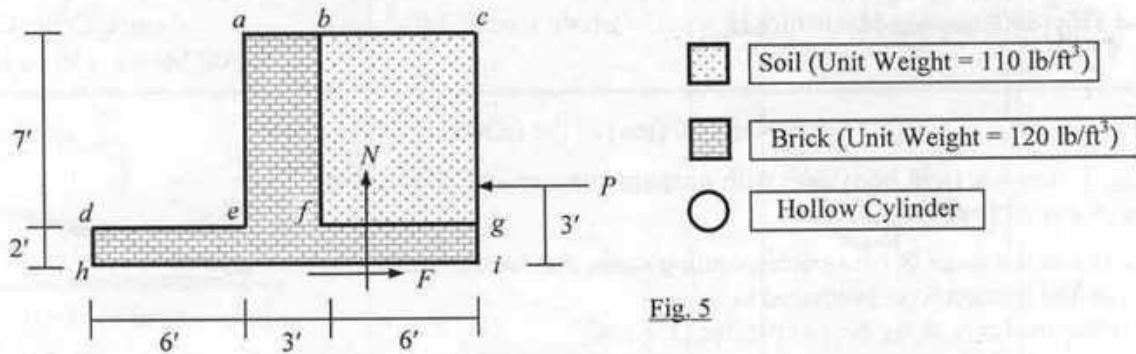

Fig. 5
6. Fig. 5 shows a rigid body (*abcghdea*) being subjected to horizontal force  $P = 500$  lb/ft, resisted by normal force  $N$  and friction force  $F$  between the brick surface *hi* and the soil underneath.